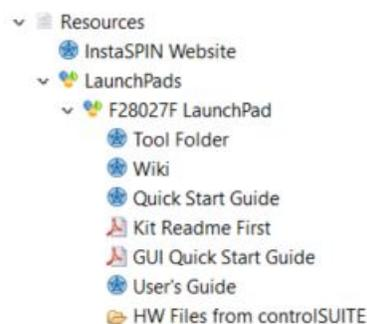

Figure 3. MotorWare™ Software–Hardware Set-Up
5. Set-up the hardware according to documentation (see Figure 3)